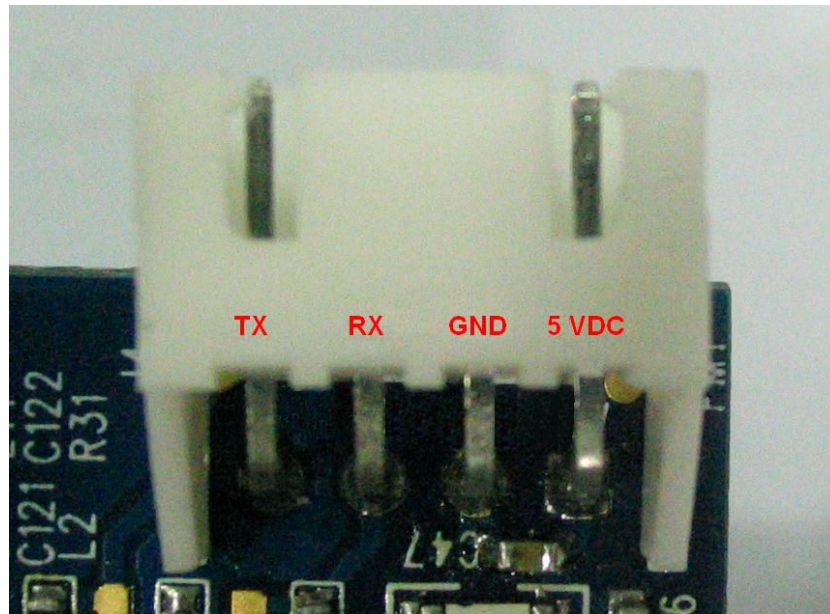

Figure 1-4 Power and RS 232 Connector
1.3.1 The connector on the RF board is used for powering up the reader and for serial-based RS 232 communications as shown in Fig. 1-4.